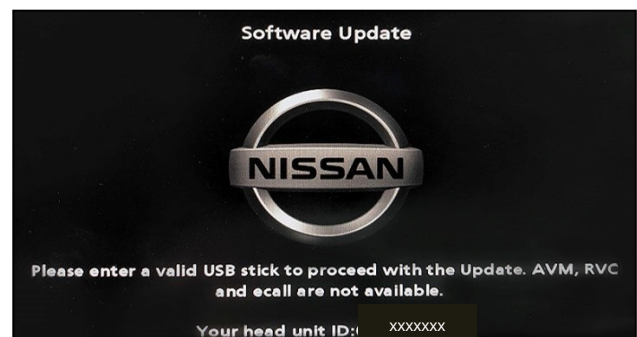

Figure 11
- The screen in Figure 11 may briefly appear. **Do not remove the USB drive.** The audio system will detect the USB and continue the update.